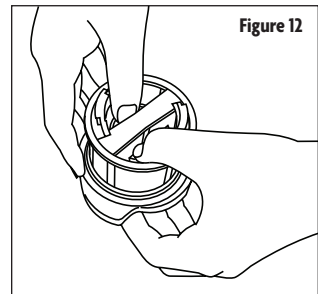

Figure 12
- a. Coarse Filter: Larger items that could block the drain are trapped in the coarse filter. To remove items caught by the coarse filter, first remove the Fine Filter (b), then turn it upside down and gently push on the bottom of the Coarse Filter (a) until it is released. (Refer to Figure 12.) Carefully empty filter and replace into position once clean.